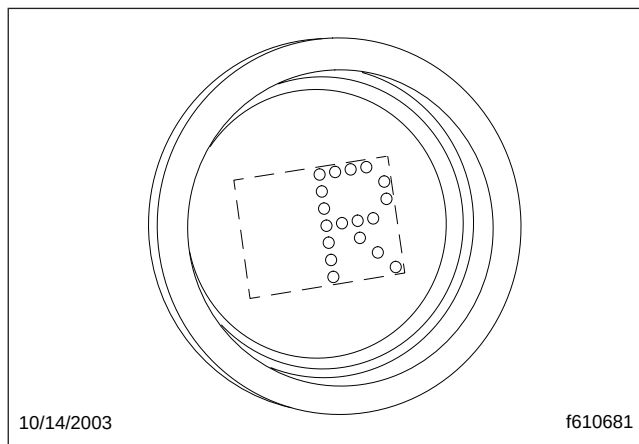

Fig. 8.27, Reverse Gear Display
Reverse (R) is at the upper end of the three-position selector switch located at the end of the SmartShift control lever. To select reverse (R), press in the neutral lock button and move the selector switch upward to the position above neutral. When reverse is selected, the letter "R" displays on the current gear indicator. See Fig. 8.27.